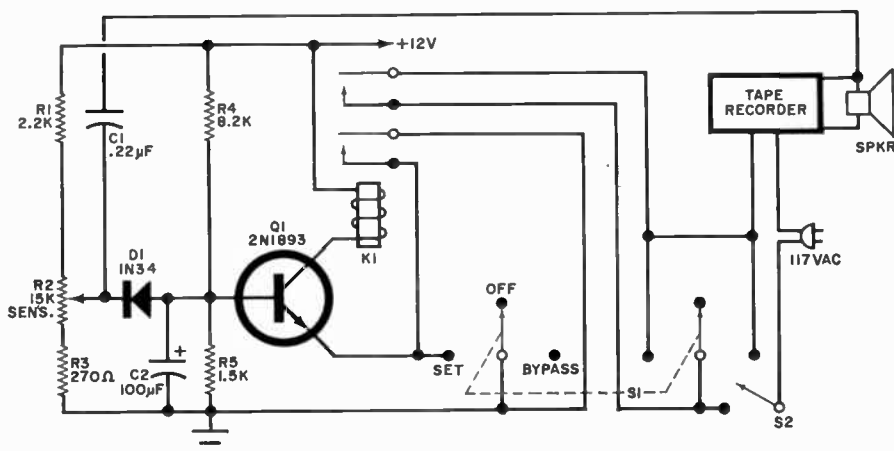

Fig. 1. The control circuit can be used with a battery-operated recorder with the same effect.
**Reader's Circuit.** Designed to switch off a conventional tape recorder/player automatically at the end of a reel, the control circuit illustrated in Fig. 1 was submitted by Richard F. Serge, ETR-2, aboard the USS Columbus (CG-12). Although intended for a specific purpose, the basic circuit is reasonably versatile and, with a little ingenuity, could be modified for more general applications.